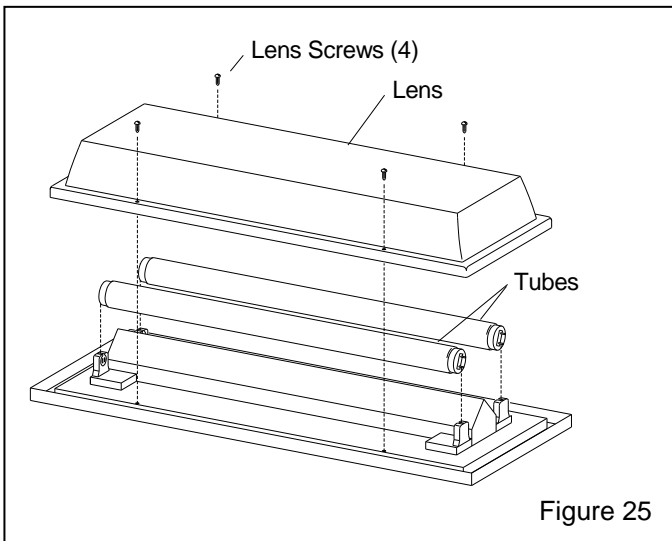

Figure 25
8.6.3.2 Flip the fixture over to access the lens screws, ref. Figure 25.